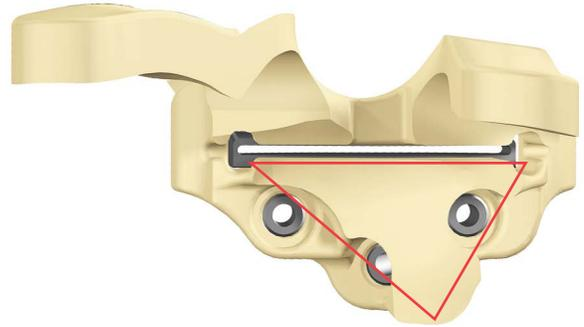
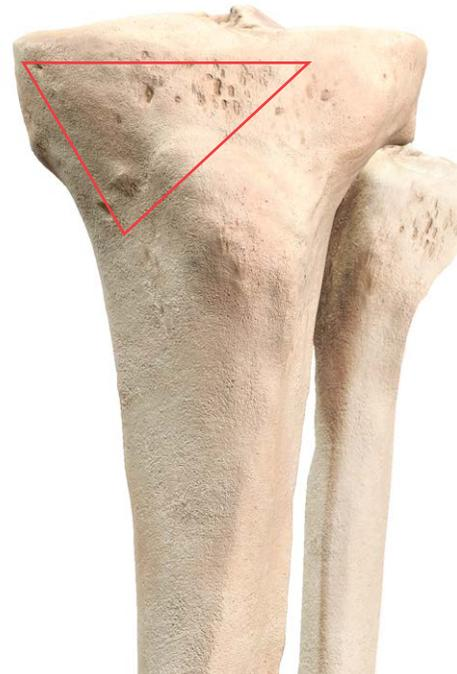

Figure 17
Figure 18
- a. The Tibial Resection Guide's primary reference surface is the anterior/medial aspect of the tibia. This area, roughly triangular in shape, matches the Guide's largest surface contact area (Figure 17). When positioning the Guide, apply most of the pressure (~75%) against the anterior aspect of the tibia. It may be necessary to remove the thin soft tissue to expose the underlying bone (Figure 18).